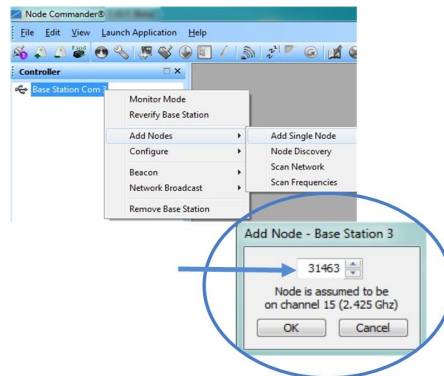

Figure 5 - Adding a Node by Address
1. To add a node by address, right-click on the gateway name in the Controller window, and select Add Single Node (Figure 5 - Adding a Node by Address).